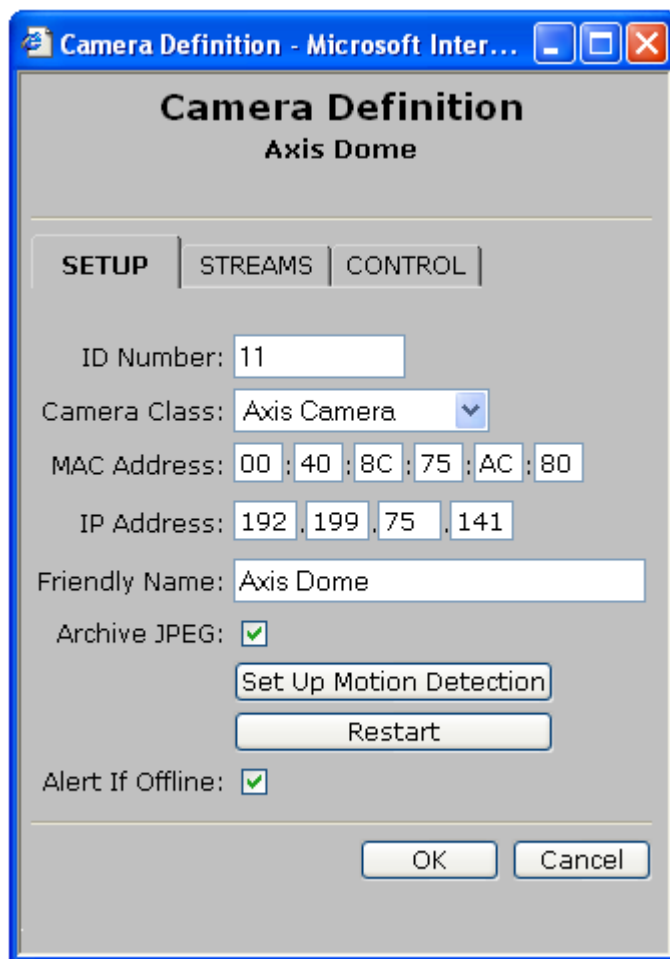

Figure 4-8. Motion Detection Using The Camera Definition Page
You can also set up motion detection using the ViewWatch Camera Definition Page. See Figure 4-8.
- Figure 4-8. Motion Detection Using The Camera Definition Page 19